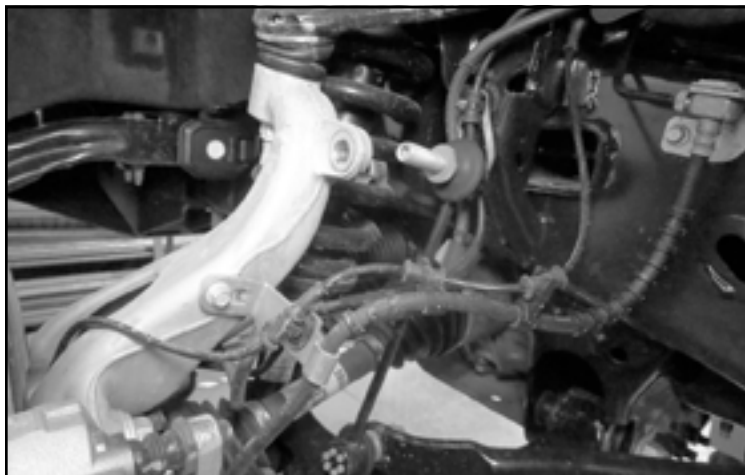

FIGURE 2 - STEP 4
4. Disconnect the factory sway bar link from the knuckle. Save hardware. **SEE FIGURE 2**